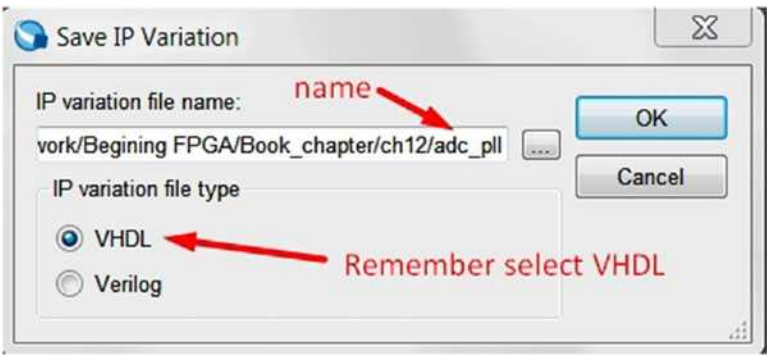

Figure 12-17. Save IP Variation for adc_pll
Step 2: A new IP variation window will appear as in Figure 12-17. Enter **adc_pll** at the end of the IP variation file name. Select **VHDL**. Click **OK**.